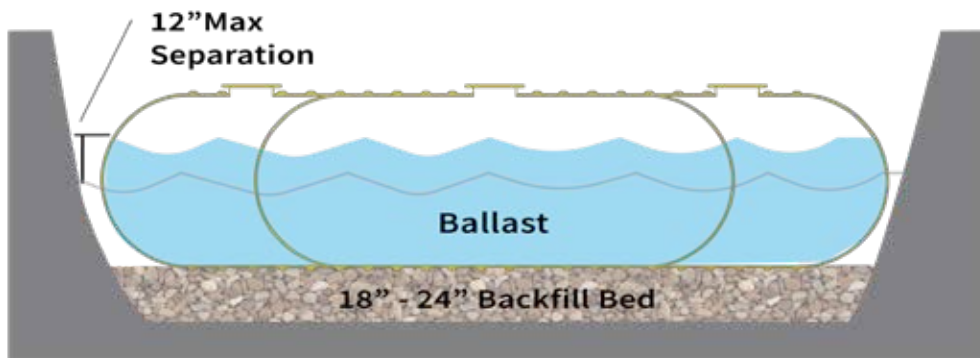

Figure 12: Ballast v. Ground Water Level
- ✓ The ballast level inside the Tank and in all compartments must be equal and not more than 12" above the ground water level outside of the Tank, see Figure 12.